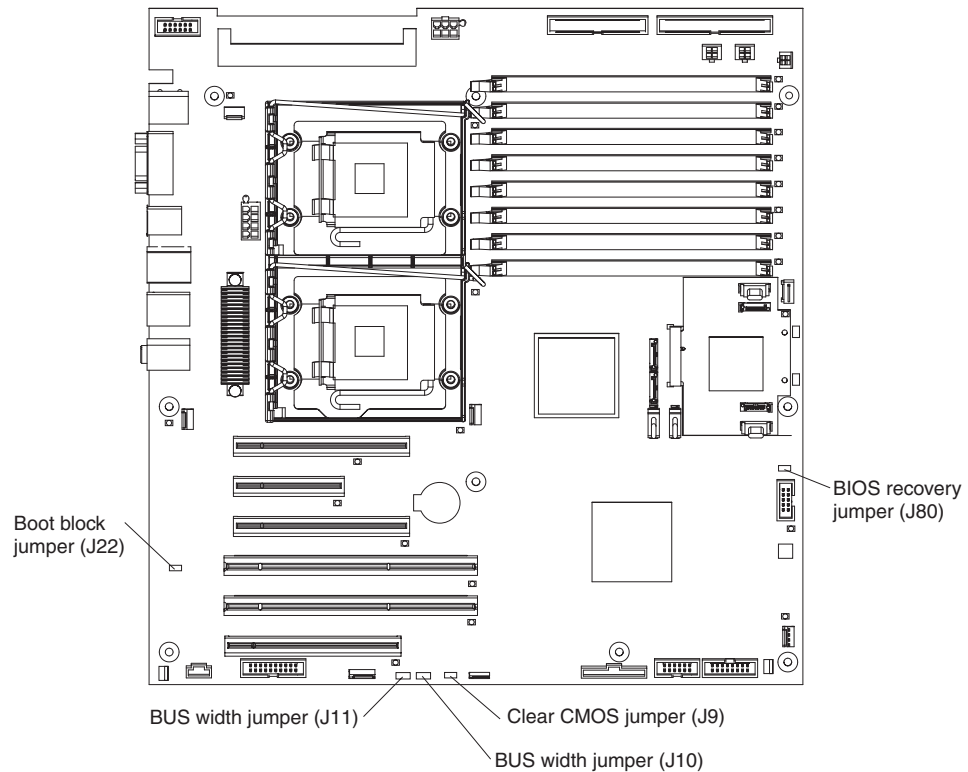

Figure 8. Recovery jumper locations
5. Locate the BIOS recovery jumper (J80) on the system board (see Figure 8 on page 59). Remove any adapters that impede access to the jumper.
5. Locate the CMOS recovery jumper (J9) on the system board (see Figure 8 on page 59), and remove any adapters that impede access to the jumper.